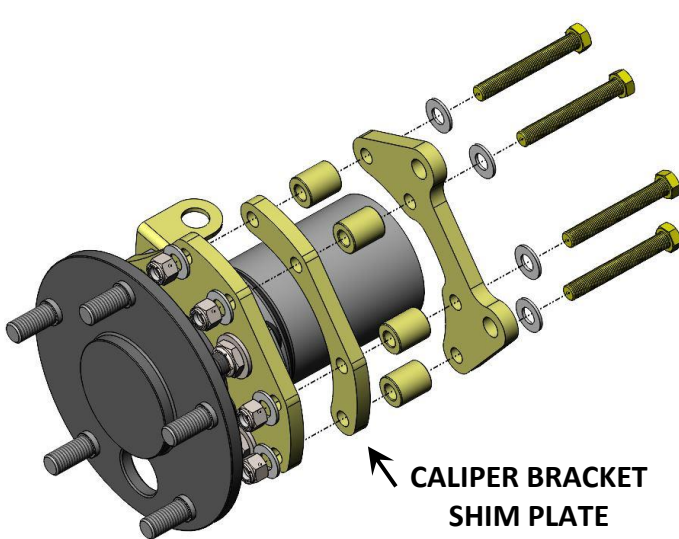
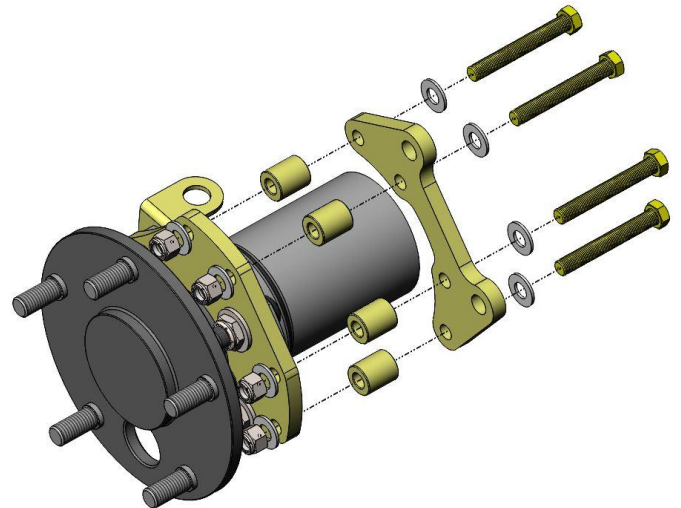

Figure 4a – Caliper Mounting Bracket Installation (2.000" Standoff)
Figure 4b – Caliper Mounting Bracket Installation (2.375" Standoff)
7. Install the Secondary Caliper Mounting Bracket at this time. If in Step 6 you determined your standoff was 2.000", install the Caliper Bracket Shim Plate between the Primary Caliper Mounting Bracket and the spacer bushings as seen in Figure 4a below. If in Step 6 you determined your standoff was 2.375", the Caliper Bracket Shim Plate is not required as seen in Figure 4b below. Mount the Secondary Caliper bracket to the Primary Caliper Bracket with the spacer bushings only between them, as seen in Figure 7 below. Use the provided Fully Threaded 3/8"-24 x 2.750" Grade 8 Hex Head Bolts, 3/8" SAE Flat Washers, 3/8"-24 Nyloc Nuts while installing the Secondary Caliper Mounting Bracket. Once in position, torque the 3/8" hardware to 40 lb/ft.